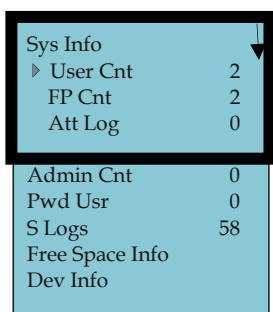

Figure 2-115 System Information Menu
2. Press **OK** to display the Sys Info menu (see **Figure 2-115**).